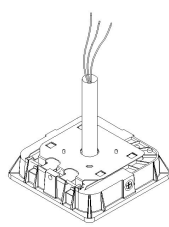

Figure 1
2.If the incoming power wires from the luminaire are longer than the pendant, make wiring connections in the junction box. If the wires are not longer than the pendant, pull wires from the junction box as required, and make wiring connections inside the pendant (see Figure 1).